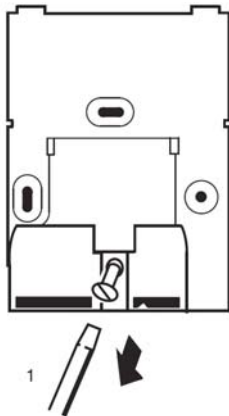
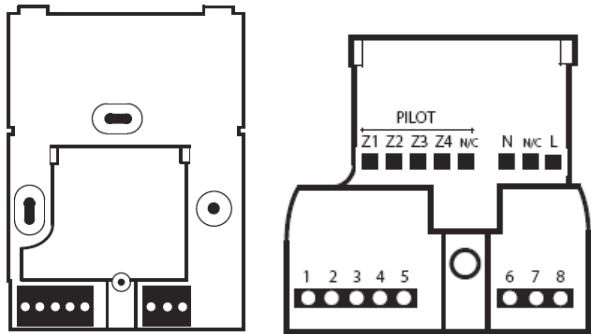

Fig.3
Fig.4
- Separate base, remove bottom centre screw from base and remove cover to expose electrical connections **Fig.3 (1)** and **Fig.4**
- Connect the two supply wires to the corresponding Neutral (6) and Live (8) terminals in the base and connect pilot wire(s) (1-4) **Fig.4**